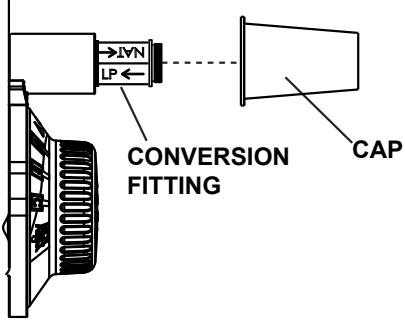

Figure 38: Gas Conversion
Make sure both the conversion fitting (Figure 38) and the manifold burner assembly (see door label) are for the type of gas supplied to your home.
1. Remove the cap (shown in Figure 38).
- B. If you are converting the unit to use natural gas, verify that the "NAT" arrow on the fitting is pointing toward the gas control valve/thermostat. The blue band on the fitting should touch the metal boss. See Figure 38.